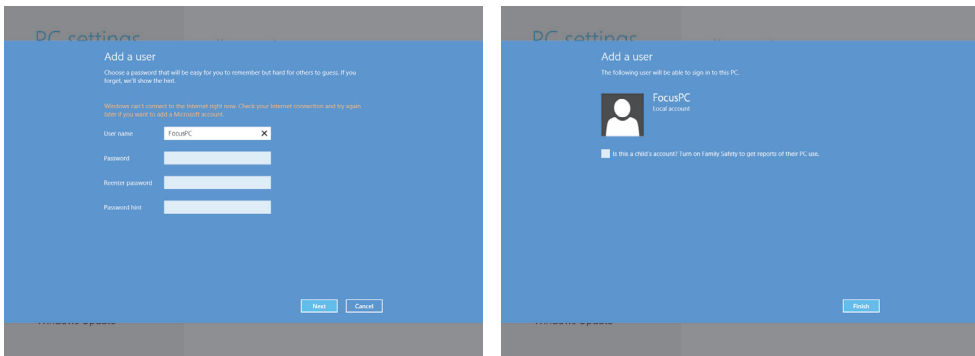

Figure 3-9 Creating the user name
5. In the **User name** box, type **FocusPC**, and then click **Next** (see Figure 3-9 on page 57).